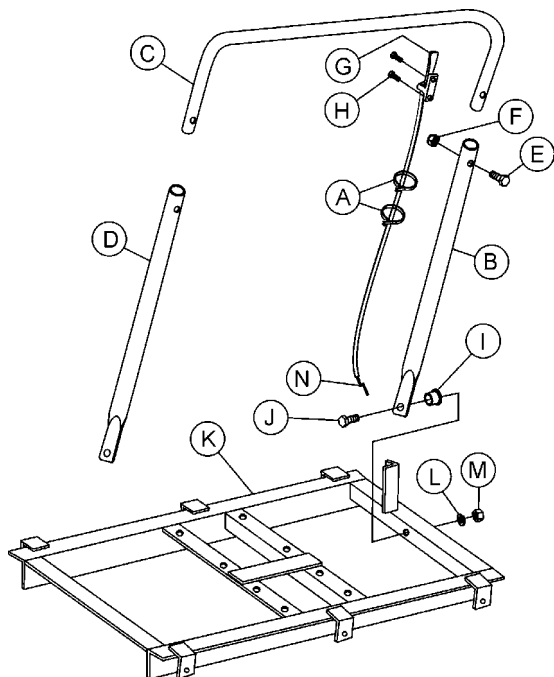

Figure 4. Handle Assembly
1. **Handle Assembly** – Gather all handle parts shown in the illustration below. Place them in front of the machine (side farthest from the engine). See Figure 4.